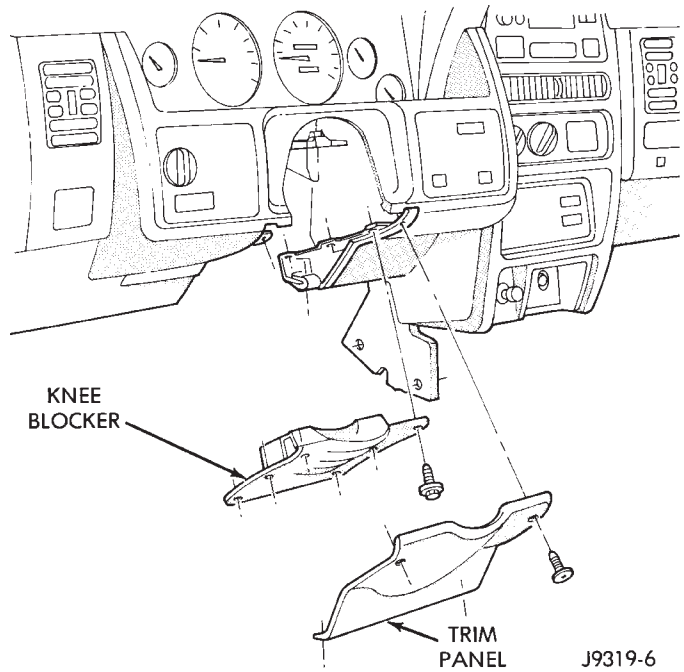

Fig. 6 Steering Column Cover And Knee Blocker
- (13) Remove 4 screws holding the steering column cover (Fig. 6).
- (14) Remove 1 screw from bottom of lower trim panel and pull panel off. There is also a clip holding the panel to the instrument panel.